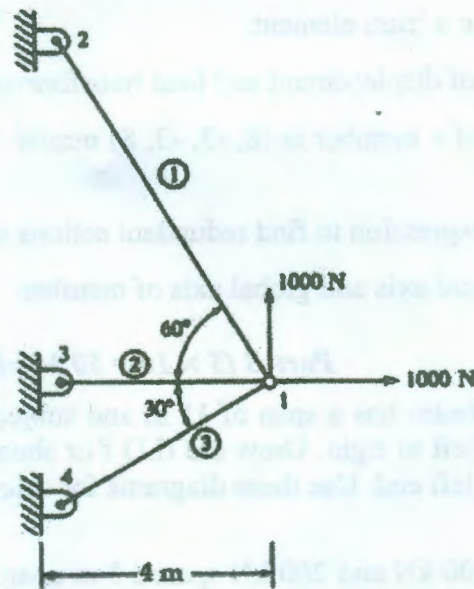

Fig.3
14. Develop global stiffness matrix for the truss shown in Fig 3. [10]